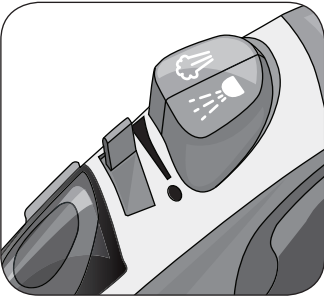

Fig. 2
Set the steam control knob (C) onto "0" (Fig. 2).